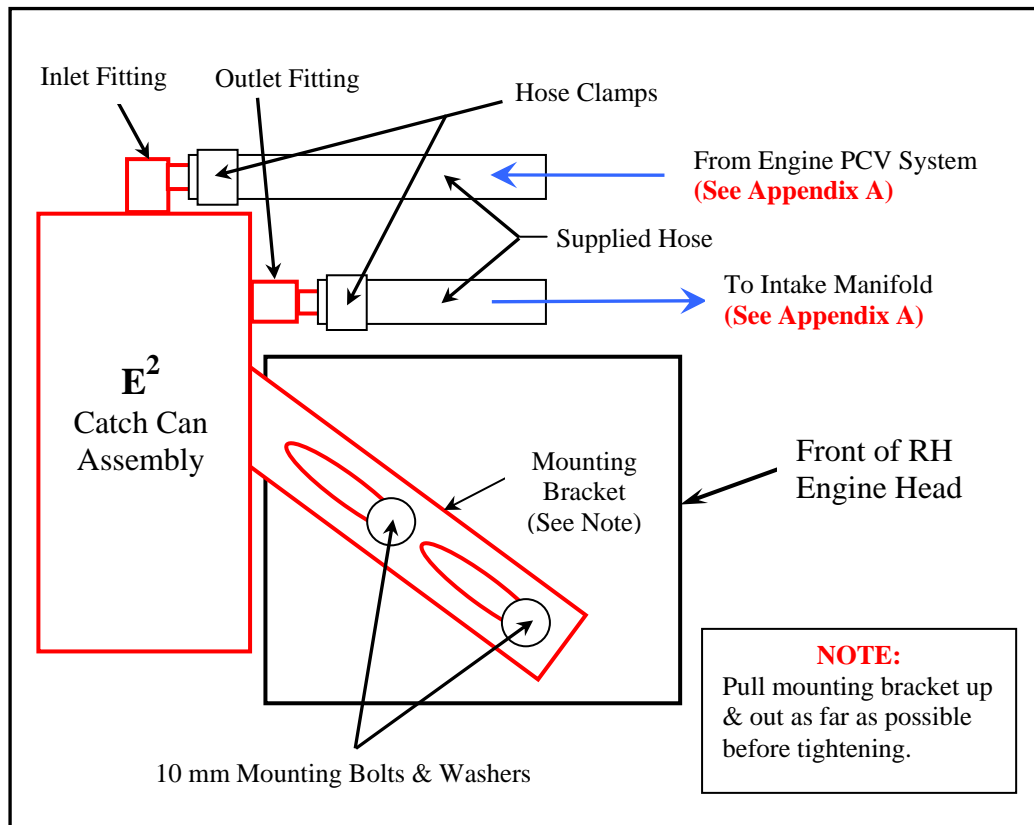

Figure 1 – Catch Can Assembly Mounting Setup
4) (**Reference Figure 1**) Locate the Catch Can and Bracket Assembly on the RH front end of the engine head, and attach with the supplied stainless steel 10 mm dia. by 20 mm long button head bolts and washers. **Note:** Pull the mounting bracket up & out as far as the bolt slots will allow, to make adequate clearance at bottom of Catch Can. Tighten to 18 ft-lbs.